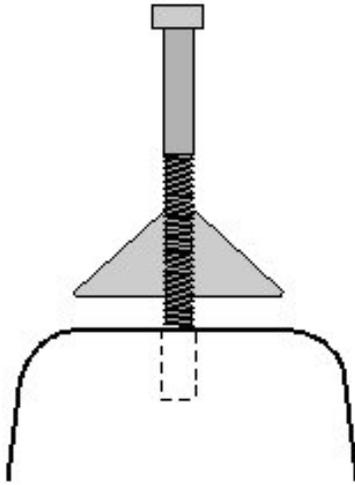

Figure 1
- c. Lightly coat the threads of the $\frac{5}{16}$ " x 3" Anchor Bolt (FKB-16) with silicone grease and screw it into the Alignment Cone until it protrudes approximately $\frac{1}{4}$ " beyond the flat surface (figure 1).